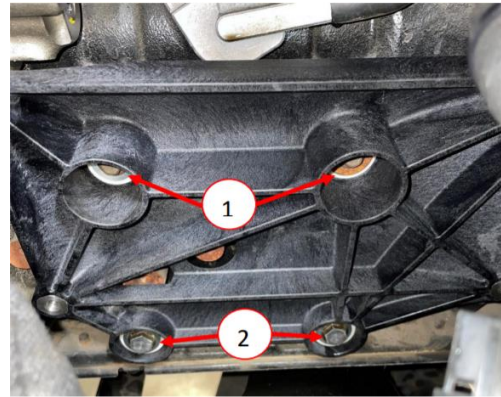

Figure 23 – New PCM Bracket
10. Using the same top bolts (1) that came out of the original PCM mounting bracket, install them in the new mounting bracket and tighten to 24 N·m (18 ft. lbs.) (Figure 23).
11. Using the provided bottom bolts (PN 5689141) (2) install them into the new mounting bracket and tighten to 24 N·m (18 ft. lbs.) (Figure 23).